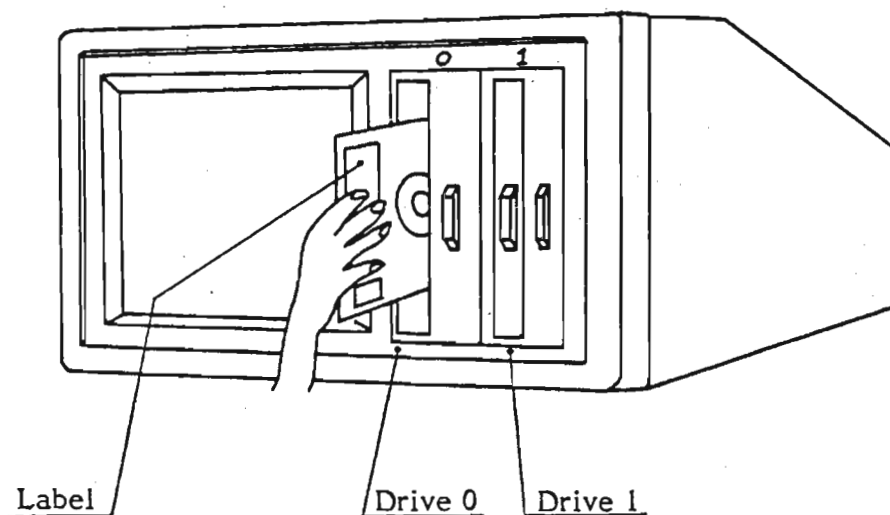

Fig. 1.1
- 1) Insert the system diskette into the drive "0" slot. (See Fig. 1.1.)